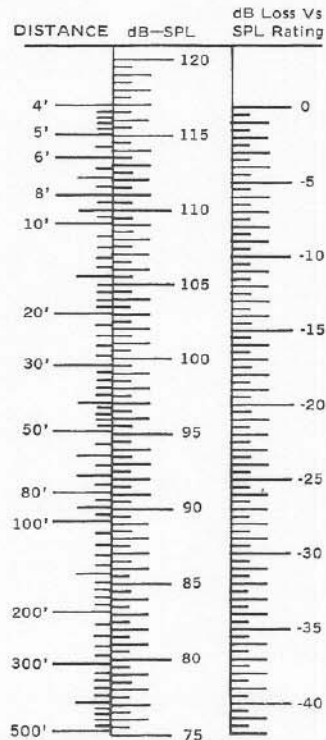

FIGURE 7 - Nomographs
**Level Variations with Distance: Non-Reverberant Environments:** In a non-reverberant environment (such as out-of-doors), sound pressure level will drop 6 dB every time the distance from the speaker is doubled (inverse square law). The nomograph of Figure 7 shows the dB losses to be expected as distance from the Sentry IVA is changed.
**Level Variation with Power:** Each time the power delivered to the speaker is halved, a drop of 3 dB occurs, in any type of environment. The nomograph of Figure 7 shows this effect.